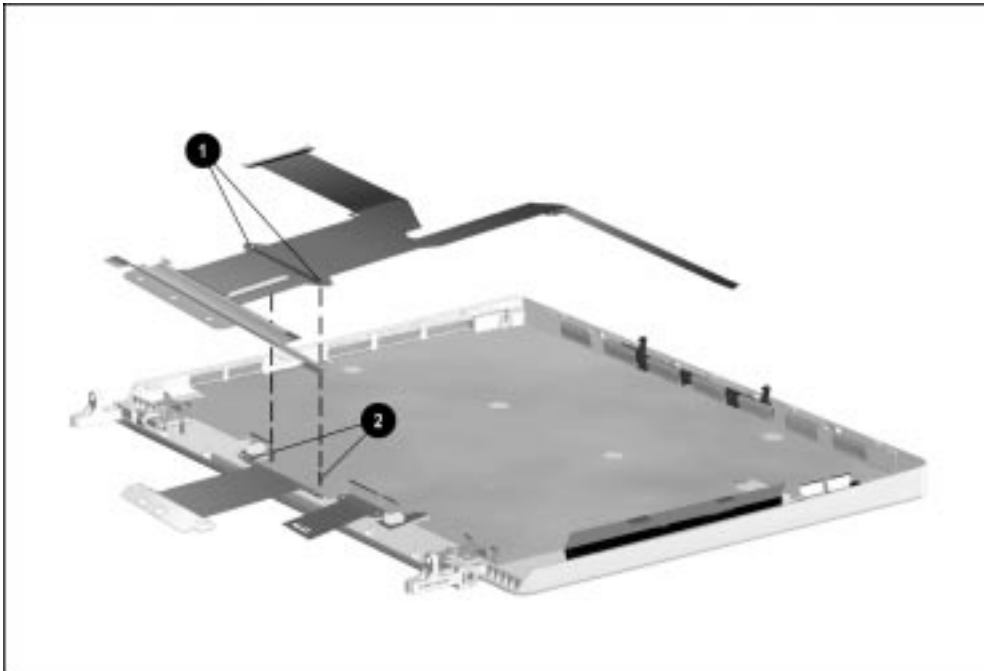

Figure 5-70. *Installing the Display Video Cable*
NOTE: When installing the display video cable, make sure the pinholes ❶ in the cable fit over the alignment pins in the display enclosure ❷ (Figure 5-70).